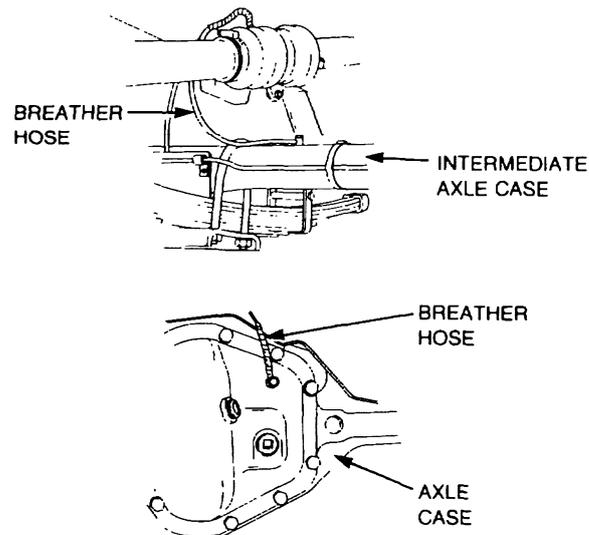

Figure 104 Rear and Intermediate Axle Breather Hose Location
- b. Remove the banjo bolt securing the breather hose to the axle casing (Figure 104). Discard the sealing washers.